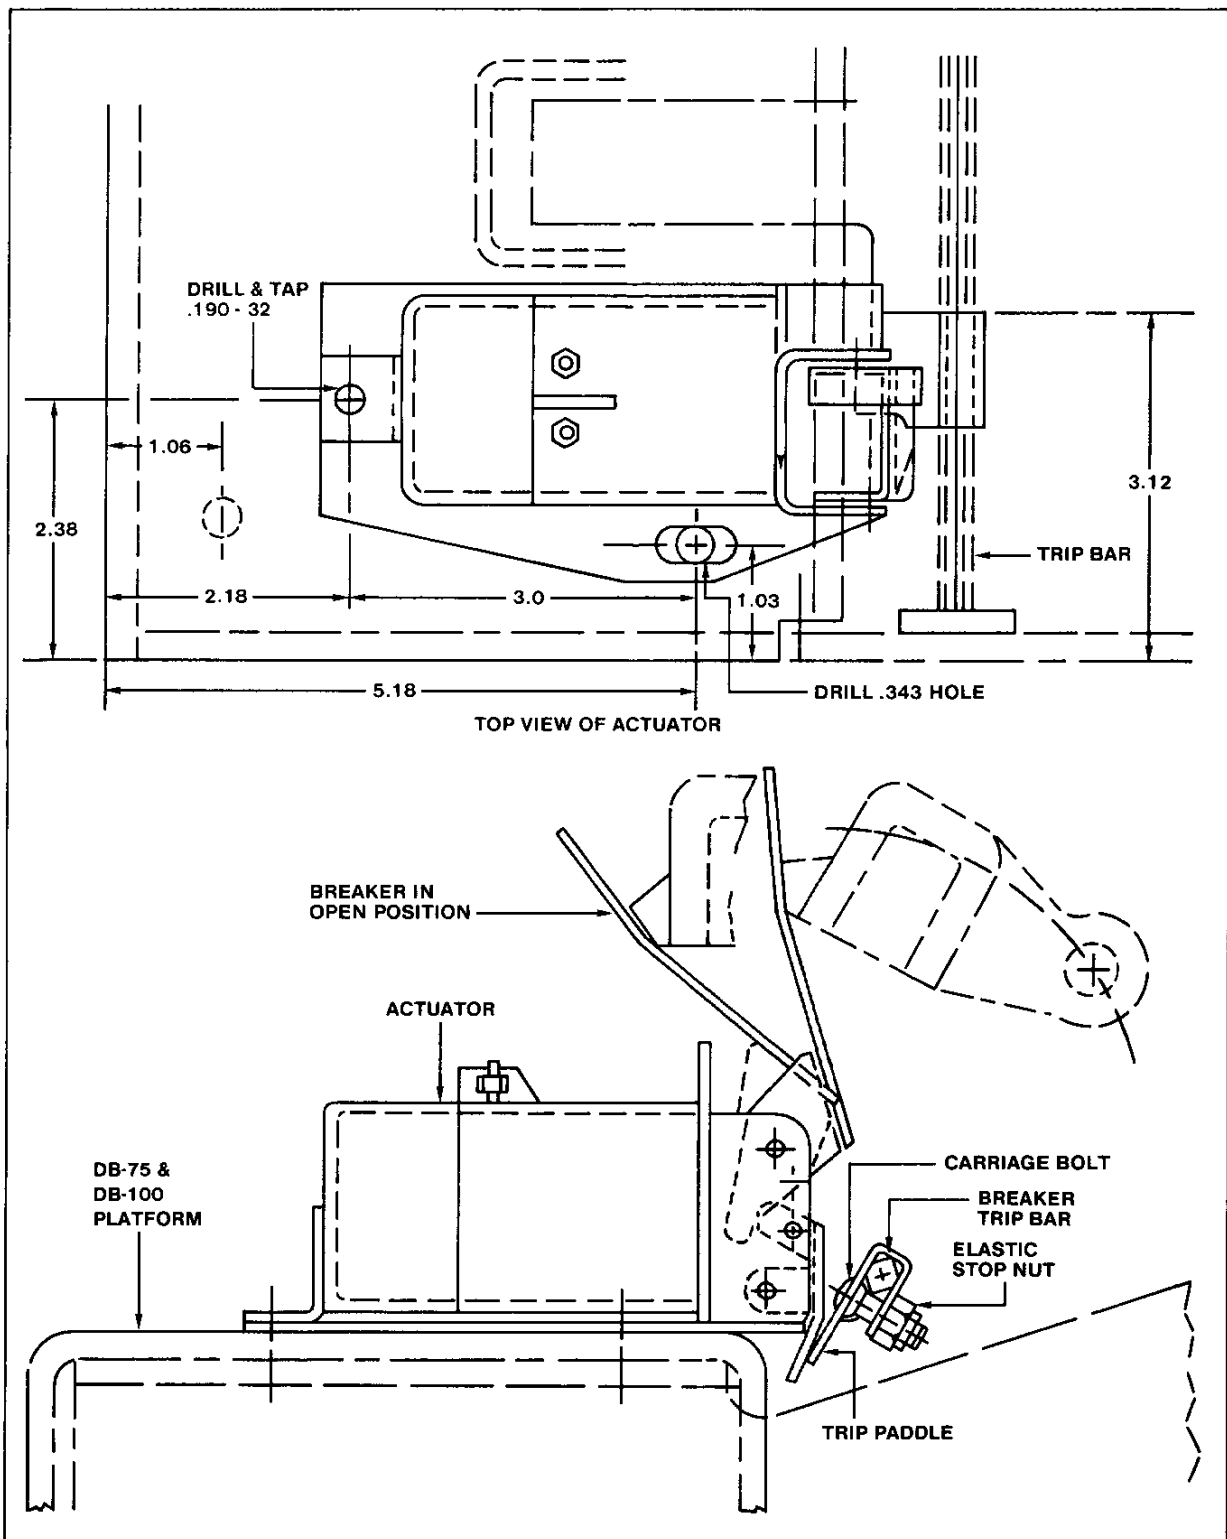

Fig. 26 Positioning of Actuator Relative to Trip Bar DB-75/100
- Position and assemble trip paddle on breaker trip bar using .25-20 x .75 carriage bolt, trip bar finger and elastic nut. Left edge of paddle should be 3.12" from side of platform, Figs. 26 and 27.
- Drill a .343 hole in platform base after you have properly positioned the actuator on the platform per Figs. 26 and 29. Hole is approximately 5.18" from the front of the platform and 1.03 from the side of the platform. Secure the actuator with a .312-18 x 1.0 screw, nut and washers.
- Drill and tap .190-32 hole in breaker platform 2.18 from front and 2.38 from right side of platform, Figs. 26 and 29 and temporarily secure actuator parallel to the platform with "L" bracket in place using .190-32 x .75 screw, nut and washers, similar to Fig. 13.